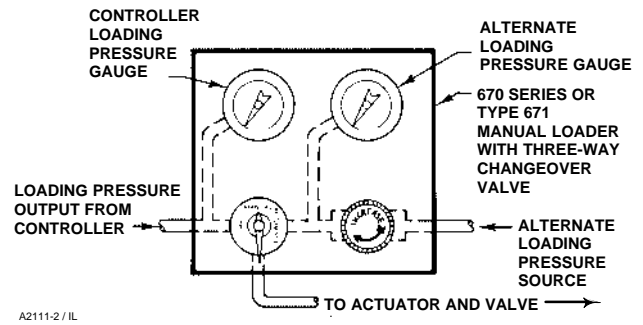

Figure 8. Schematic of Manual Backup Changeover Hookup for Wizard II Controller
As shown in figure 8, a 670 or 671 Series panel-mounted loading regulator with changeover valve permits switching to an alternate loading pressure in the event of a supply pressure failure or other malfunction.
6. Bushing or thermowell (when the temperature bulb is to be used in a closed vessel). Refer to figure 8 for available sizes. Specify straight shank or tapered shank thermowell. (Tapered-shank thermowells, with their high strength-to-weight ratio, permit operation in higher process fluid velocities than do straight-shank thermowells.)